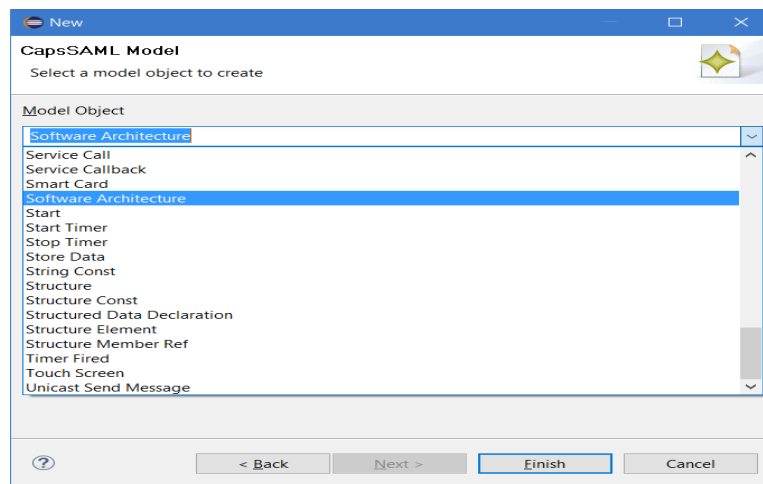

Figure 2.6: List of the items
- Click on next and select **Software Architecture** from the **Model Object** items list and click finish (figure 2.6);